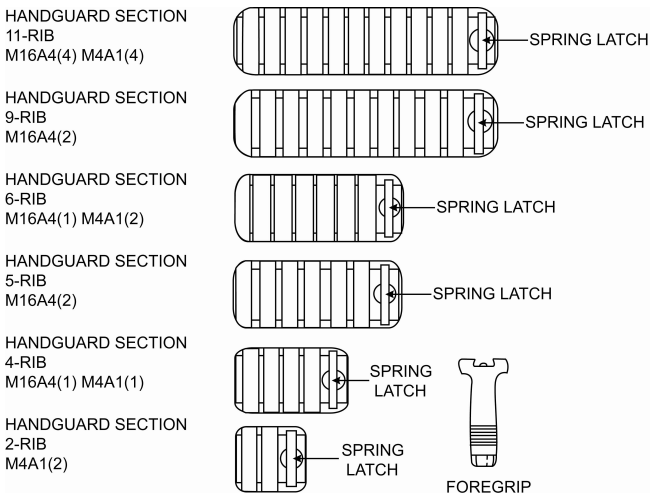

Figure 1-6. Handguards
- (1) Handguard sections are quickly attached and detached from the RAS. A spring latch at one end of each handguard section automatically engages cutouts positioned at either end of the four rail sections. Refer to Figure 1-6.